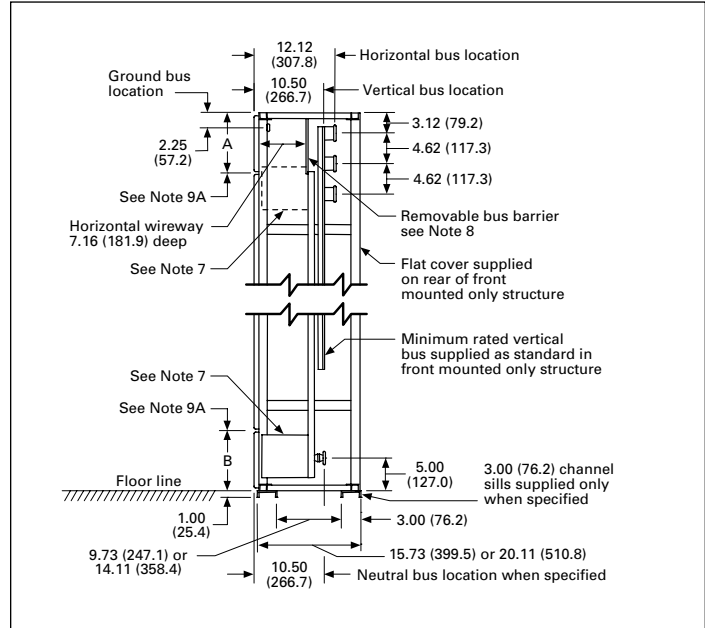

Figure 51. Side view A
5. This conduit space is not recommended when a neutral bus and/or a space heater is required. Otherwise this space is available for conduit. See **Figure 51** for vertical dimensions.